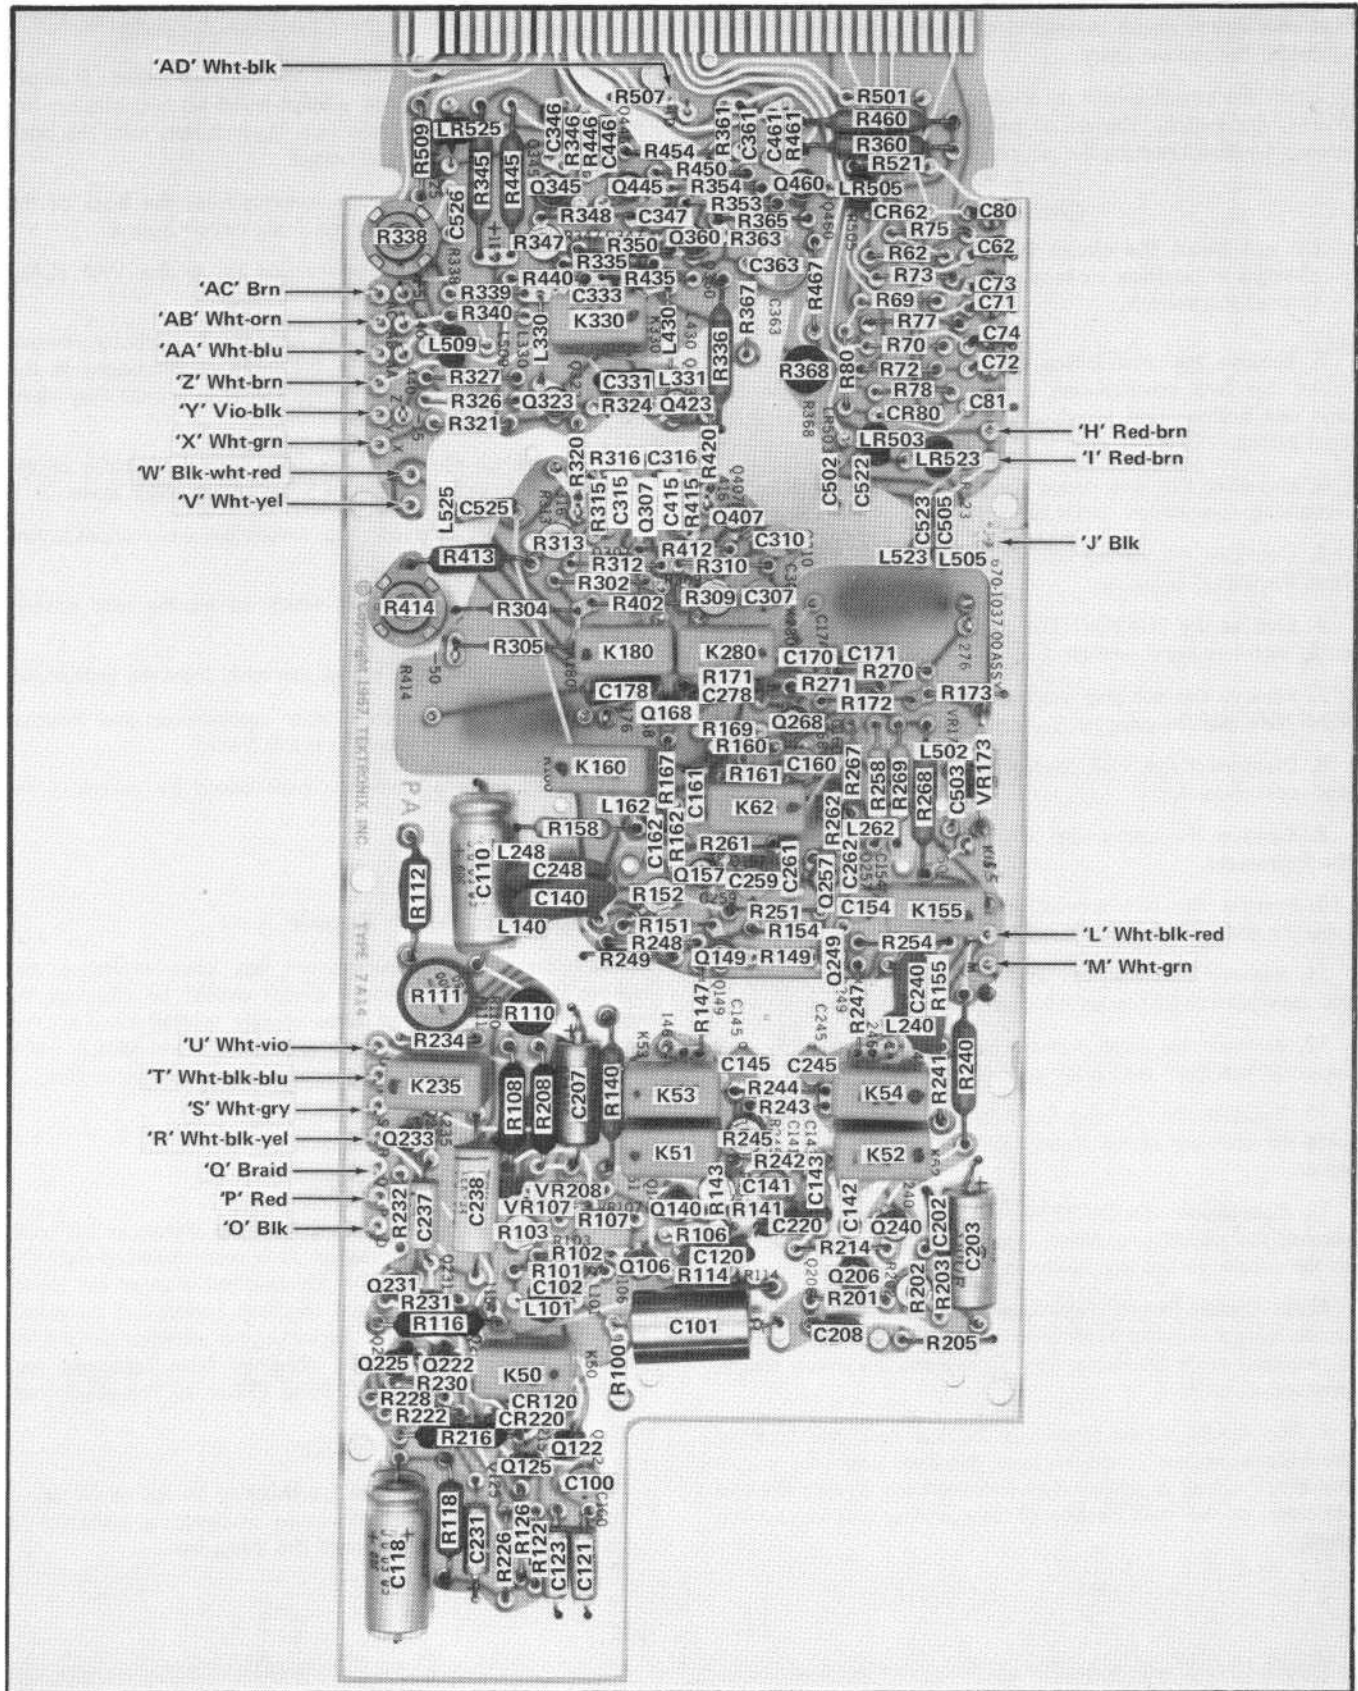

Fig. 4-5. Main Circuit Board (front view).
5. Unsolder the center connection (B) to the VAR (CAL/UNCAL) switch circuit board.
7. Remove all the pin connections from both sides of the main circuit board. See Fig. 4-5 for wiring color code.